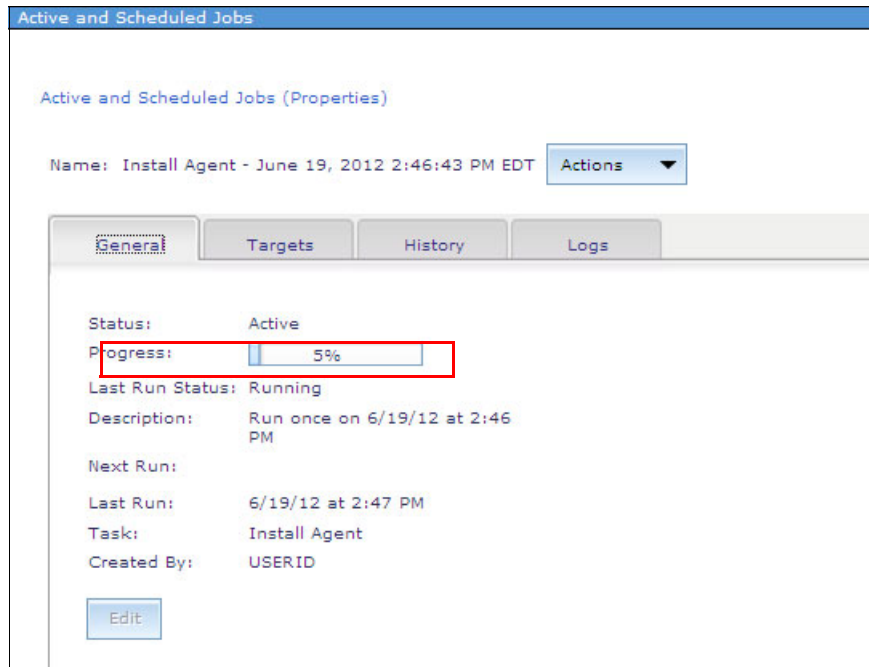

Figure 10-54 Checking your progress
8. Check the progress, as shown in Figure 10-54.